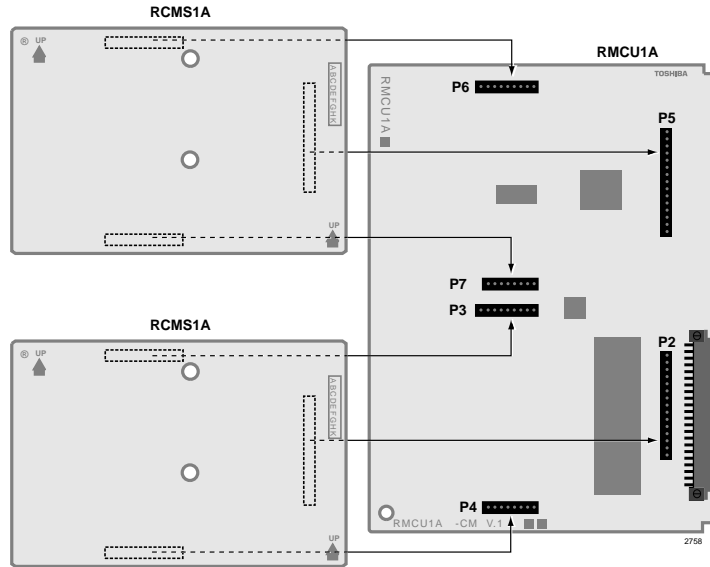

Figure 7-29 Placement of RCMS Subassemblies on the RMCU Interface Card
1. Attach one or two subassemblies (RCMS) to the connectors on the RMCU as shown in Figure 7-29. If only one RCMS is to be installed, install it in the bottom position.